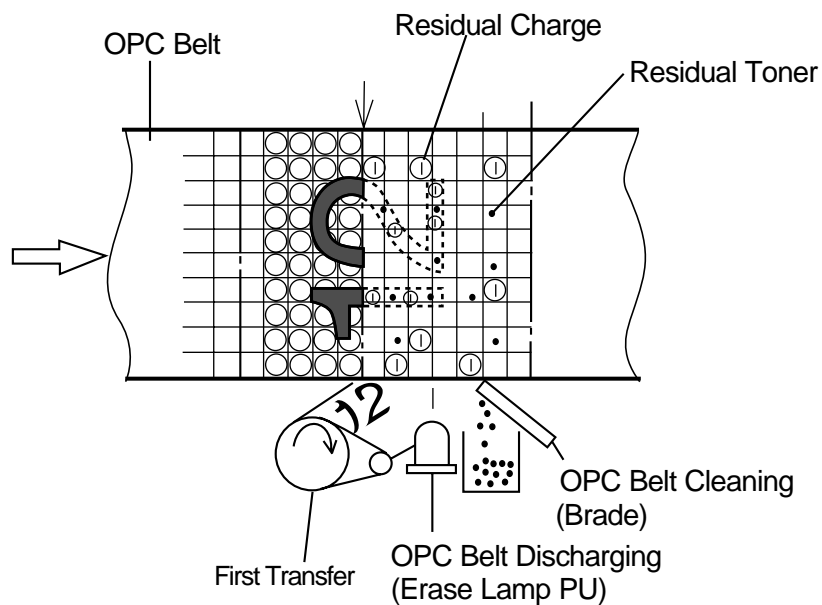

Fig.4-18
- (2) Process of First Transfer (Refer to Fig.4-18.)